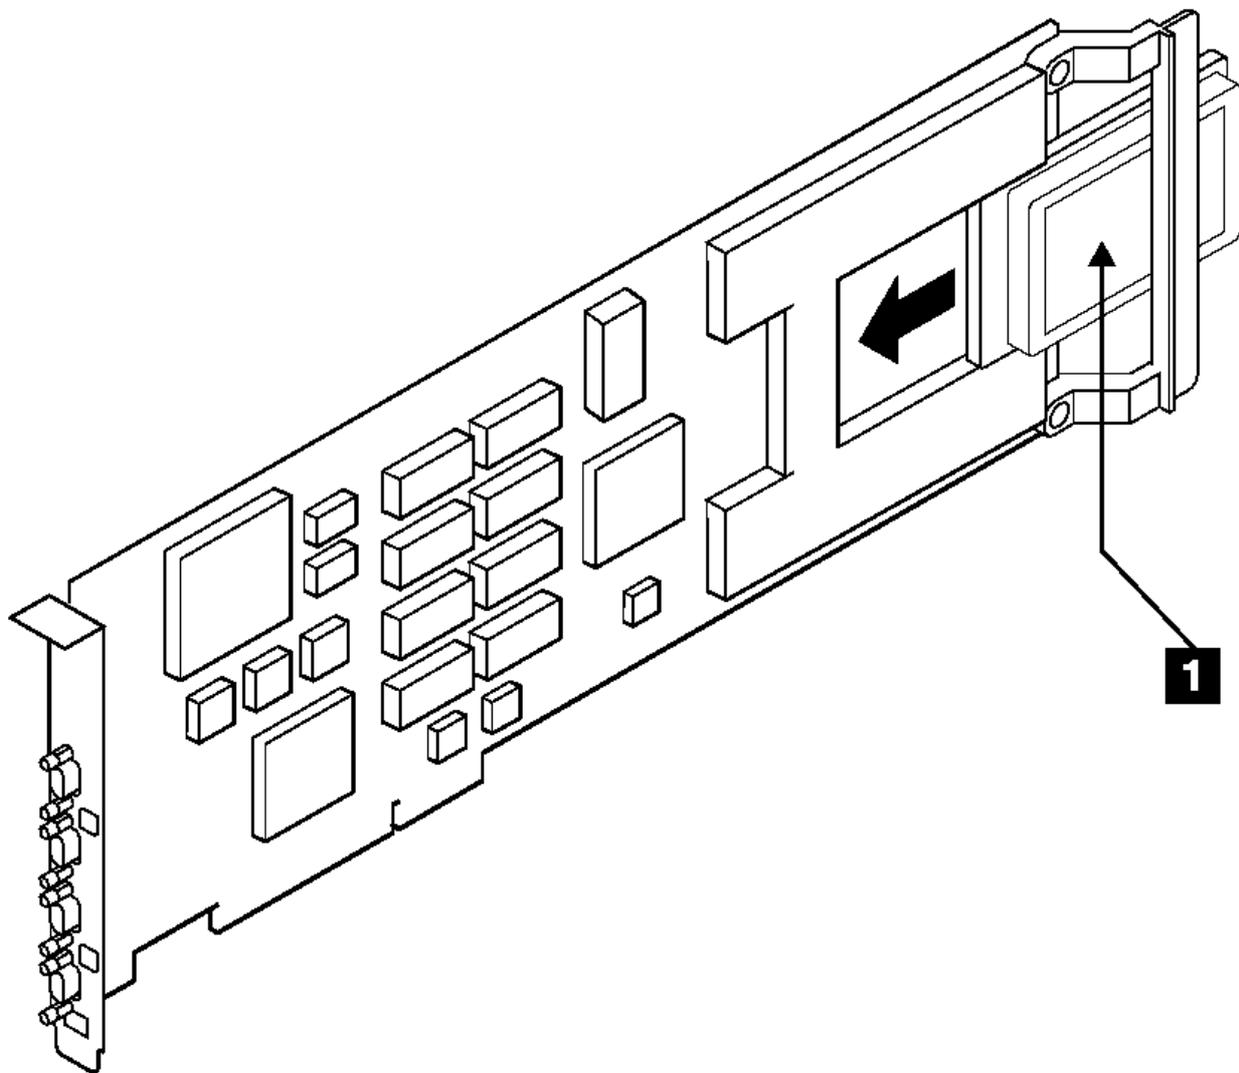

Figure 10-8. Installing the Fast Write Cache Option Card onto a PCI SSA Multi-Initiator/RAID EL Adapter
2. Refer to Figure 10-7 and Figure 10-8, and identify the type of adapter card that you are servicing.